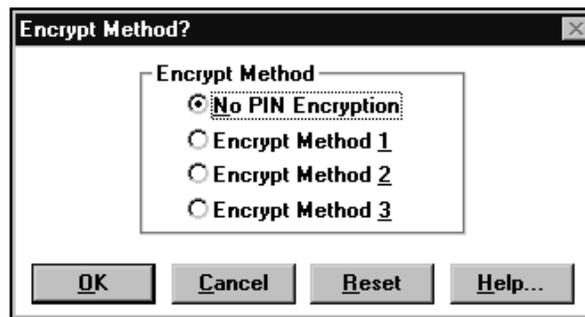

FIGURE 102. Example of Encrypt Method dialog box
1. To choose an encryption method for the enhanced calling card PIN, select Encrypt Method in the configuration window. (See Figure 102.)